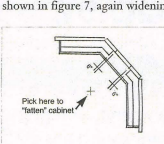

Figure 7
5. Object snap to the existing cabinets against the wall as shown in figure 7, again widening into the kitchen area. Use the [-] key and input to make the upper cabinets clear the window opening. (You'll make two cabinet "walls.") Press mouse button 3 to close the caps on the cabinet ends.